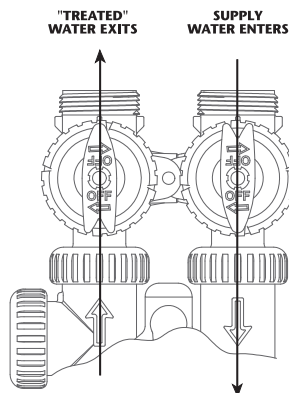

Figure 1
1. **NORMAL OPERATION POSITION:** The inlet and outlet handles point in the direction of flow indicated by the engraved arrows on the control valve. Water flows through the control valve for normal operation of a water softener. During the regeneration cycle this position provides regeneration water to the unit, while also providing untreated water to the distribution system (**Fig. 1**).